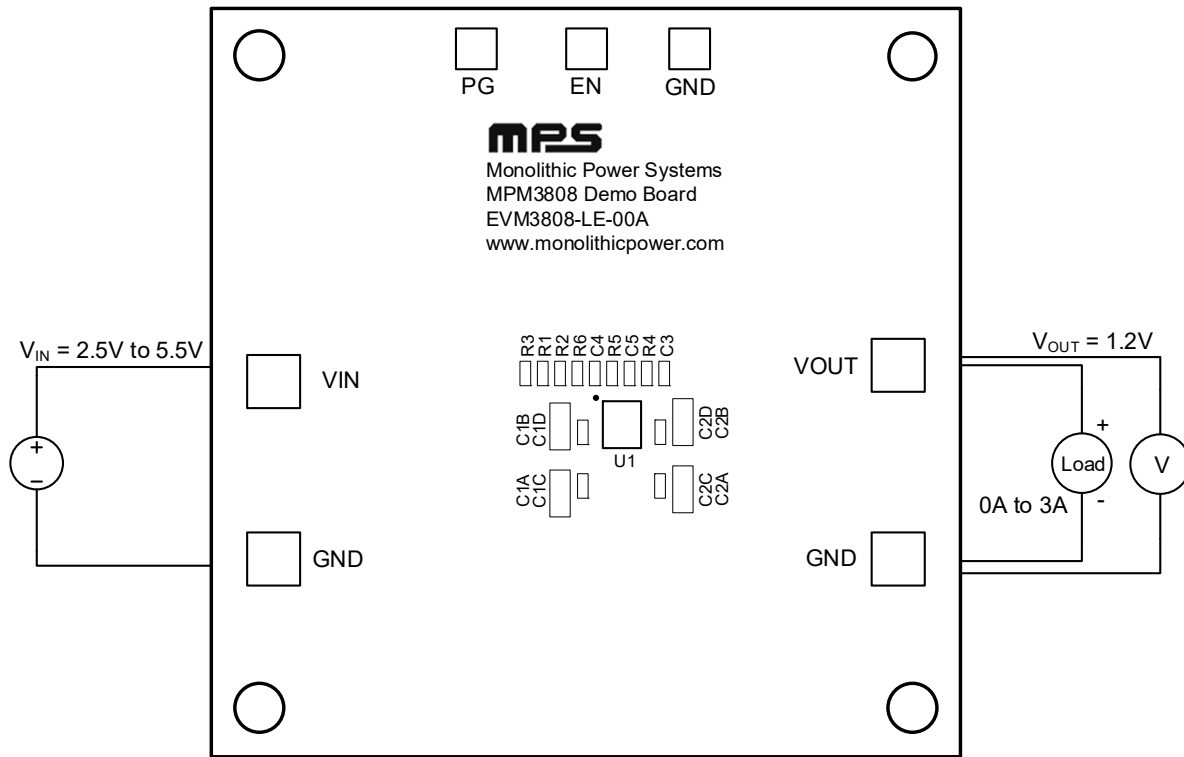

Figure 2: Measurement Equipment Set-Up
10. Figure 2 shows the measurement equipment set-up.